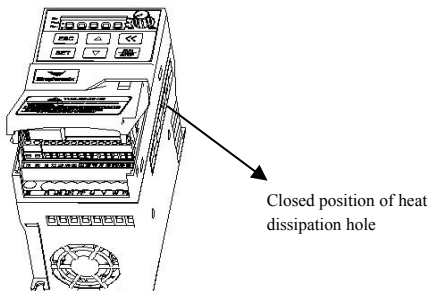

Figure 2-1-A
7. If there is too much dust in the environment, please close the cooling hole. (As show in figure 2-1-A)